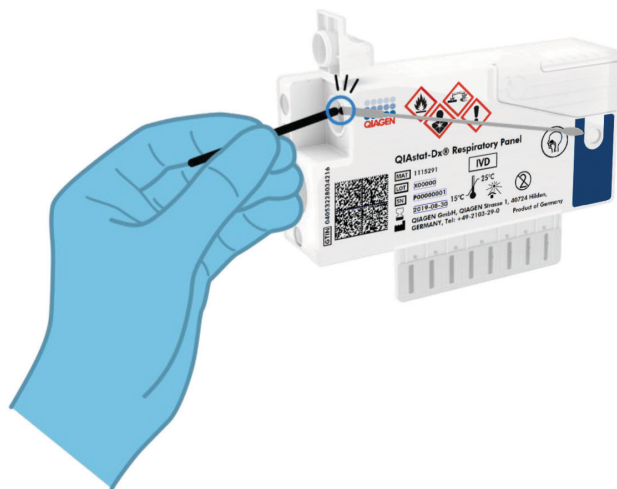

Figure 9. Breaking swab shaft.
6. Break the swab shaft at the breakpoint, leaving the rest of the swab in the QIAstat-Dx Respiratory Panel Cartridge (Figure 9).